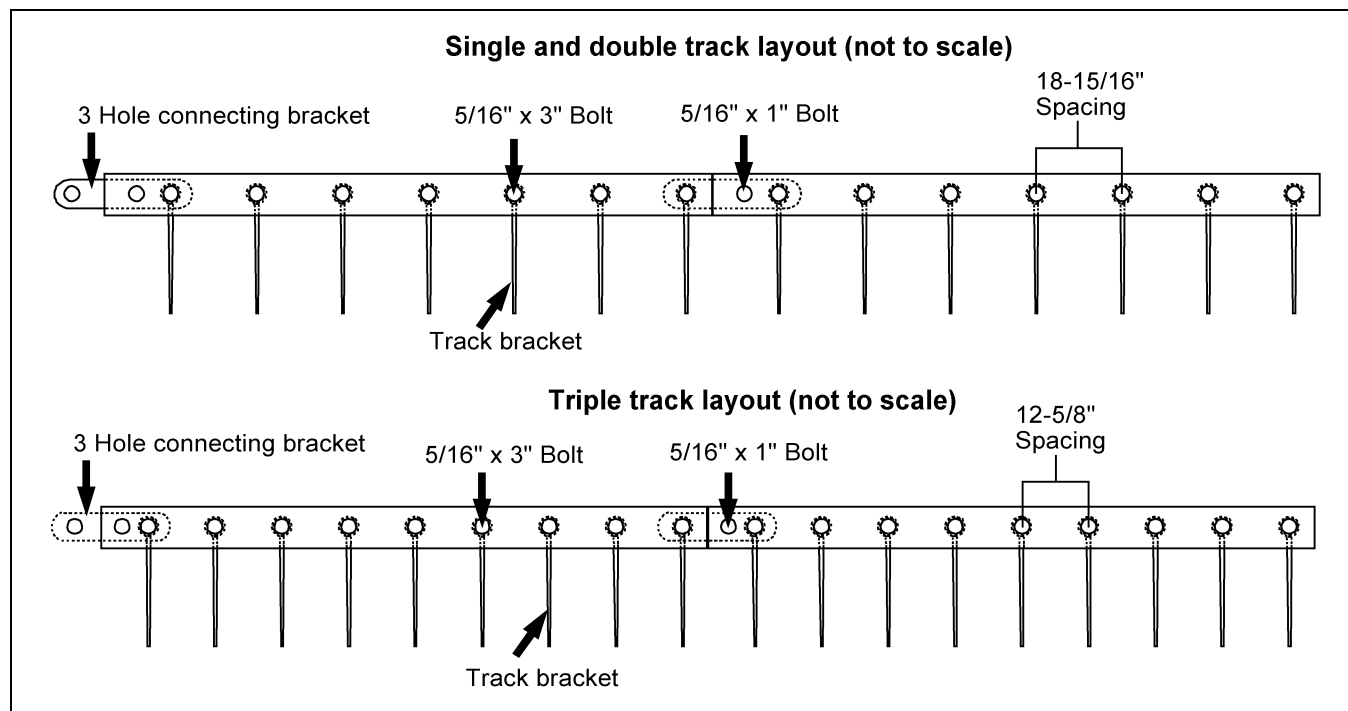

Figure 4A
9. Are augers 3" (for bins up to 30') or 4" (for bins 33' and larger) off the drying floor at bin wall? (See Figure 4AS on Page 44.)
**NOTE:** The wall track has two (2) different hole spacings: 18-15/16" on the single and double auger units and 12-5/8" on the triple auger units. (See Figure 4A.)